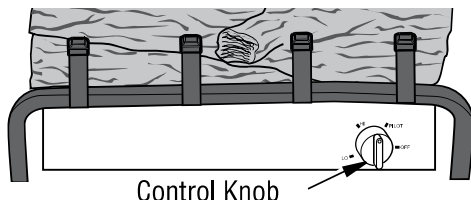

Figure 39 - Control Knob and Igniter Button Location
4. Wait five (5) minutes to clear out any gas. Then smell for gas, including near the floor. If you smell gas, STOP! Follow "B" in the safety information, column 1. If you don't smell gas, go to the next step.
5. Press in control knob and turn counterclockwise  to the PILOT position (*see Figure 39*). The Igniter will spark once. Keep control knob pressed in for 5 seconds. If control knob does not pop up when released, contact a qualified service person or gas supplier for repairs. *NOTE: You may be running this heater for the first time after hooking up to gas supply. If so, the control knob may need to be pressed in for 30 seconds or more. This will allow air to bleed from the gas system.*